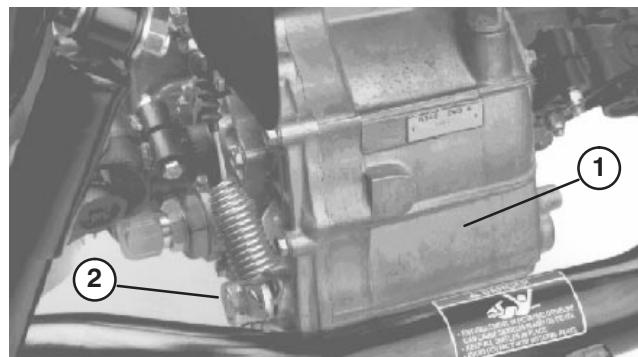

Figure 49
## CHANGING TRANSAXLE / HYDRAULIC FLUID (Fig. 49)
2. Remove drain plug (Fig. 49) from side of reservoir and let hydraulic fluid flow into drain pan.